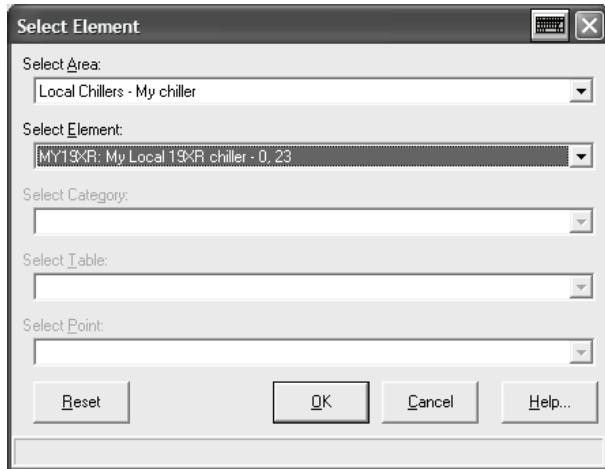

Fig. 22 — Select Element Definition
22. The system will prompt to select the area and CCN element screens to clone. Select the area “Local Chiller” and element that was just added in Network Manager. Then press “OK” (Fig. 22).